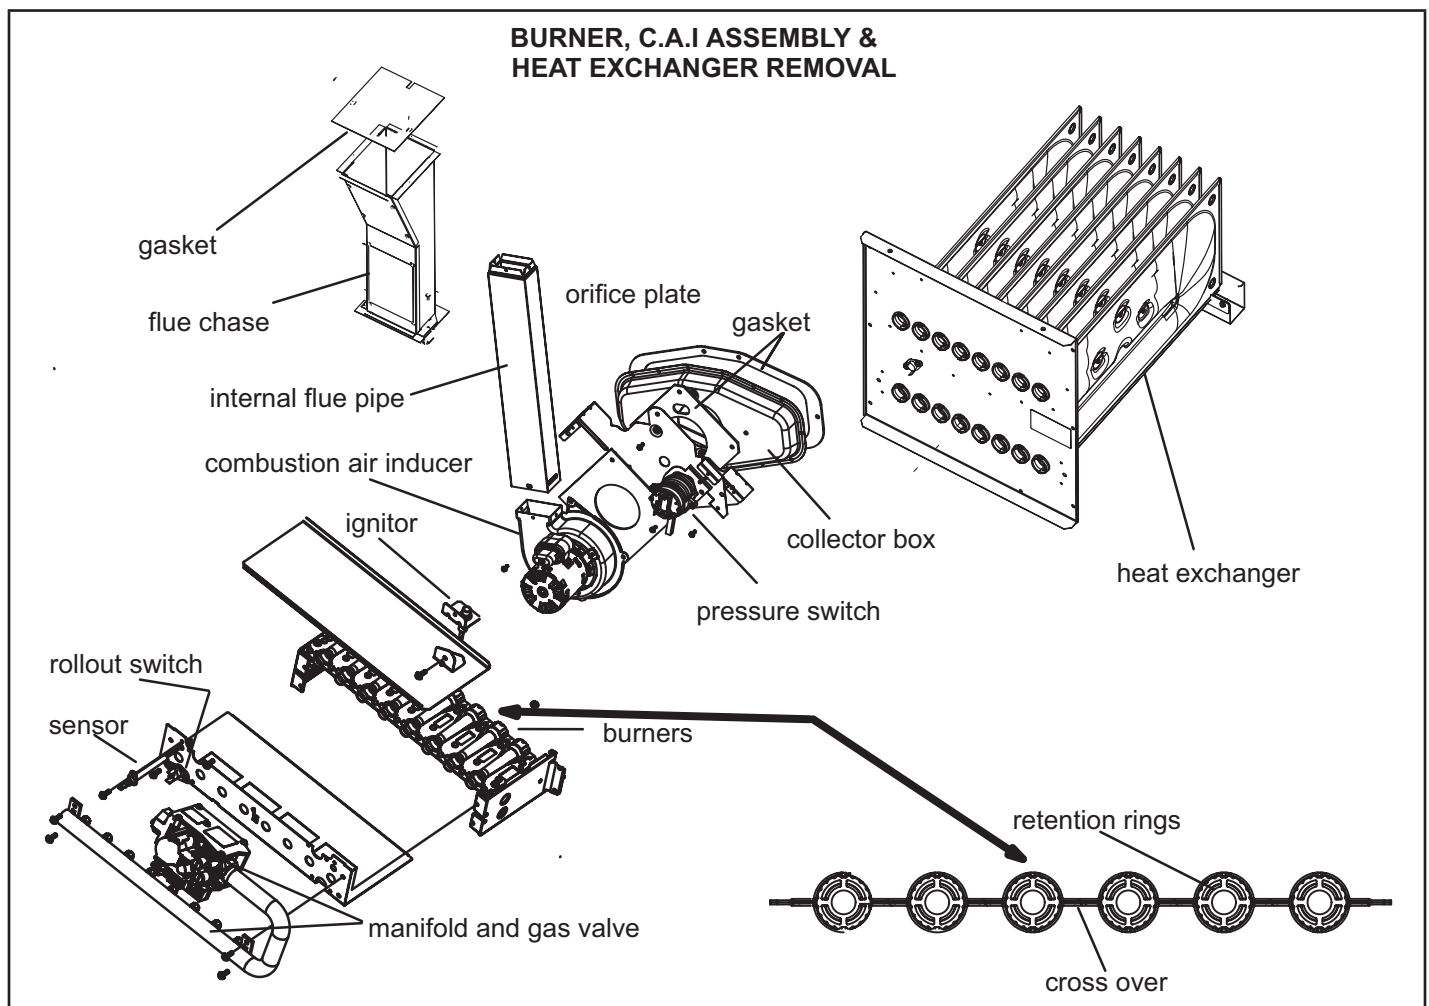

FIGURE 21
- 11-To clean burners, run a vacuum cleaner with a soft brush attachment over the face of burners. Visually inspect inside the burners and crossovers for any blockage caused by foreign matter. Remove any blockage. FIGURE 21 shows burner detail.